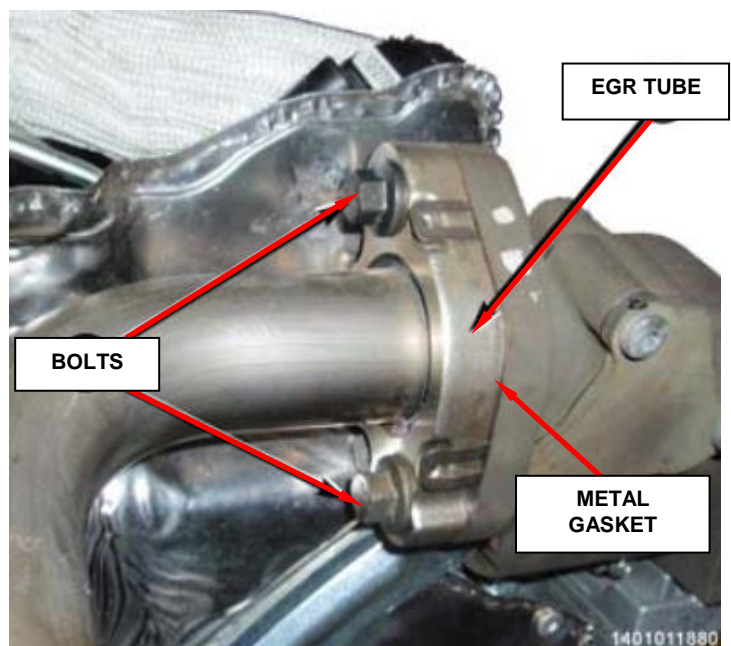

Figure 35 – EGR Tube
16. Remove the bolts and the tube from the EGR cooler (Figure 35).
25. Install the exhaust tube and **NEW** metal gasket and tighten the bolts to 25 N·m (18 ft. lbs.) (Figure 35).